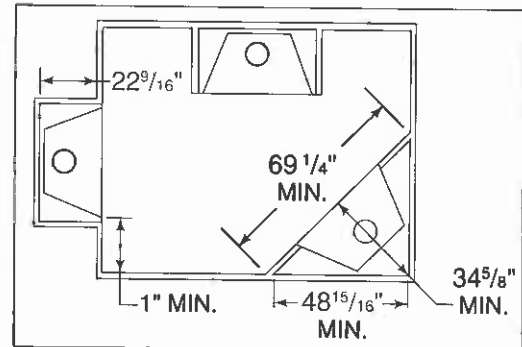

Figure 2
The G340E(LE) or GC340E(LE) gas appliances can be installed in a wide variety of ways and will fit nearly any room layout. It may be installed in a recessed position, framed out into the room, or across a corner. The unit may be installed at a height level with the floor, or it can be raised up from the floor to enhance its visual impact. Figure 2 illustrates a variety of ways the appliance may be located in a room.
Proper clearances to combustible sidewalls, as illustrated in Figure 2, must be maintained.